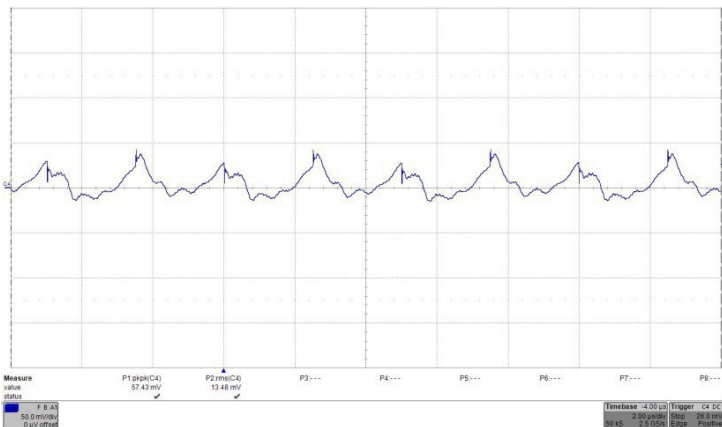

Figure 24: Output voltage ripple at full rated load current
a. Without input filter from Figure 24 ($C_9 = 2 \times 470\mu\text{F}/50\text{V}/70\text{m}\Omega$)
b. With input filter from Figure 24
c. Without input filter from Figure 24 ($C_9 = 2 \times 470\mu\text{F}/50\text{V}/70\text{m}\Omega$)
d. With input filter from Figure 24